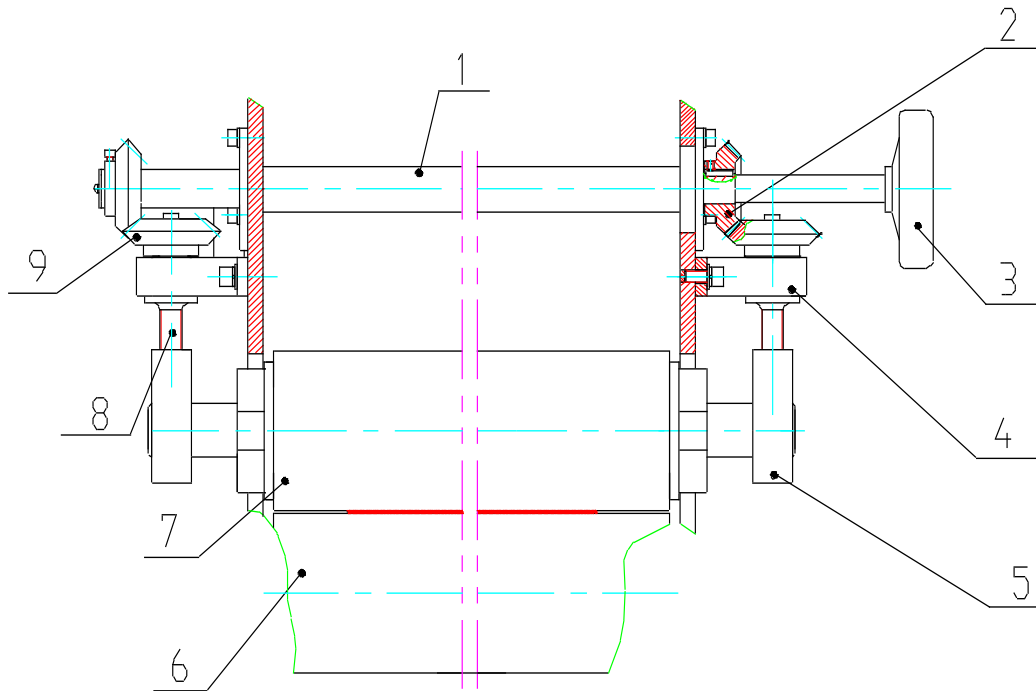

Figure 13
• **Adjustment methods for the space between the two rollers: (please refer to Fig 13)**